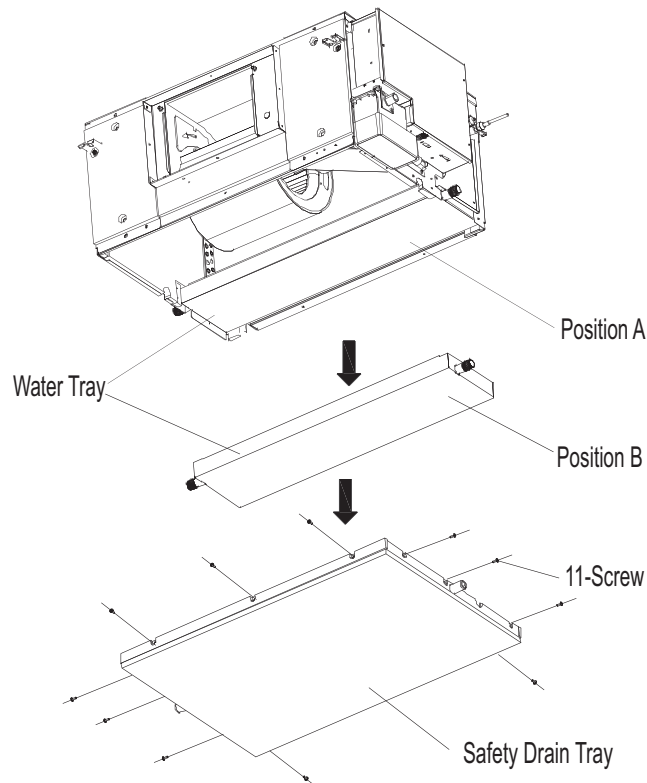

Fig. 37 — Fan Disassembly (024-036)
1. Remove the 11 screws from the Safety Drain Tray and remove the tray along the direction of the arrows in Fig. 37.